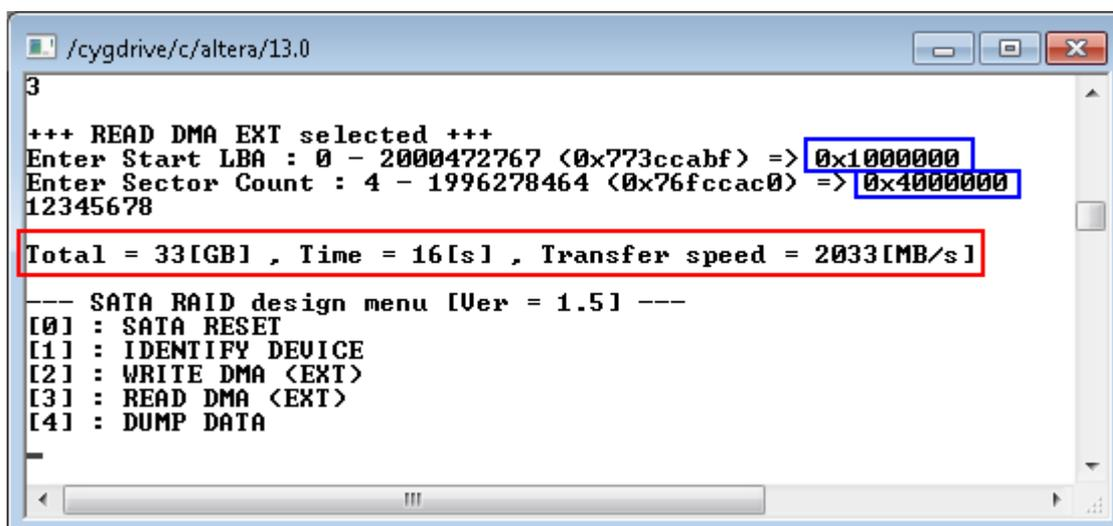

Figure 2-6 READ COMMAND without Verify
- Sector Count: same description with Sector Count in WRITE DMA (EXT) menu. If this input is not more than 262144, the third input will be displayed for selecting verification pattern. If input is more than 262144, the third input will not be displayed to skip data verification process for checking performance only, as shown in Figure 2-6.